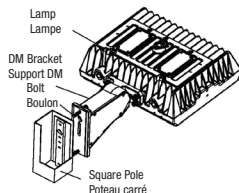
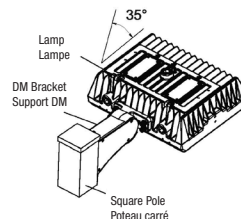

Figure 30
Figure 31
Step 2: Fix DM bracket to square pole with bolt (Figure 30, Figure 31).
Notice: 1. Adjustable angle is 0-35° (Figure 31).